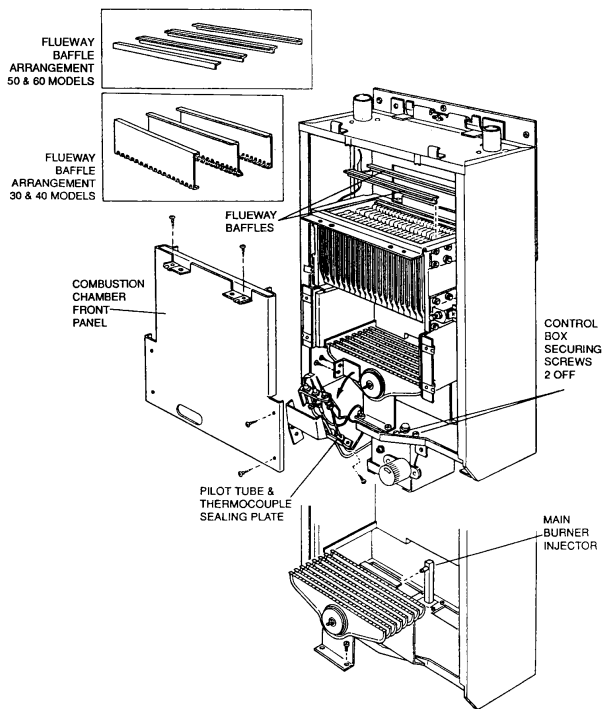
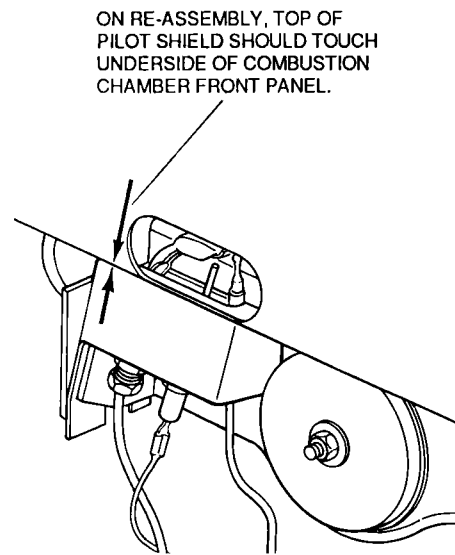

Figure 27 PREPARING THE BOILER FOR SERVICING
Figure 27A PILOT SHIELD
See Fig 27
Refit the main burner ensuring it is correctly engaged onto the rear injector. Replacement of the other components is the reverse of removal. Ensure that the flueway baffles are refitted as illustrated in Fig 27 **NOTE:** The pilot shield is located between the pilot and the securing bracket, and should be pushed upwards to make contact with the underside of the combustion chamber front panel. See Figure 27A Ensure on re-assembly that the sealing plate and split grommets form a tight seal around the pilot tube and thermocouple capillary.
Refer to Fig 27 and carry out the following:-
- c Access to the pump over-run thermostat is made easier by separating the upper assembly of the control box from the boiler base. This is done by removing the two hexagonal head screws identified in Fig 27 Tilt the upper assembly and disconnect the electrical wiring from the thermostat as follows:-
- c Pull off the outer thermostat knob. d Remove inner thermostat post by undoing the two securing screws. e Access to the boiler thermostat is made easier by separating the upper assembly of the control box from the boiler base. This is done by removing the two hexagonal head screws identified in Fig 27 Tilt the upper assembly and disconnect the electrical connections from the rear of the thermostat as follows:-